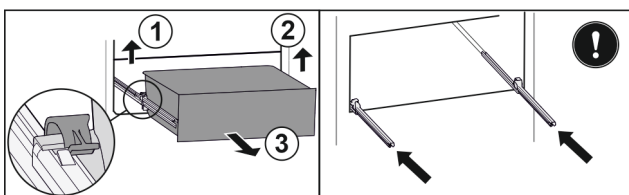

Fig. 95
- ▶ Lift left clamp and simultaneously pull drawer forwards on the left. *Fig. 95 (1)*
- ▶ Lift right clamp and simultaneously pull drawer forwards on the right. *Fig. 95 (2)*
- ▶ Remove drawer to the front. *Fig. 95 (3)*